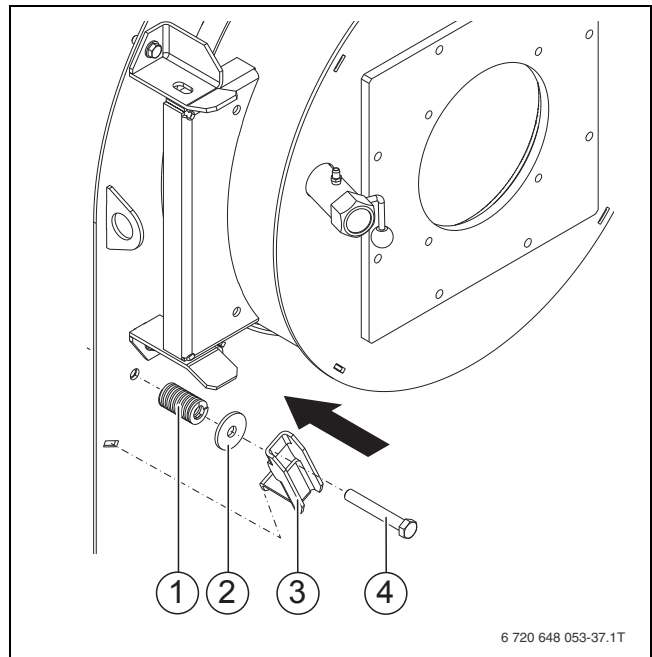

Fig. 18 Fitting
- ▶ Unhook the rocker arm (→ fig. 18, [3], page 22).
- ▶ Release the compression spring (→ fig. 18, [1]) with Allen screw (→ fig. 18, [4]).
- ▶ Fit the washer (→ fig. 18, [2]).